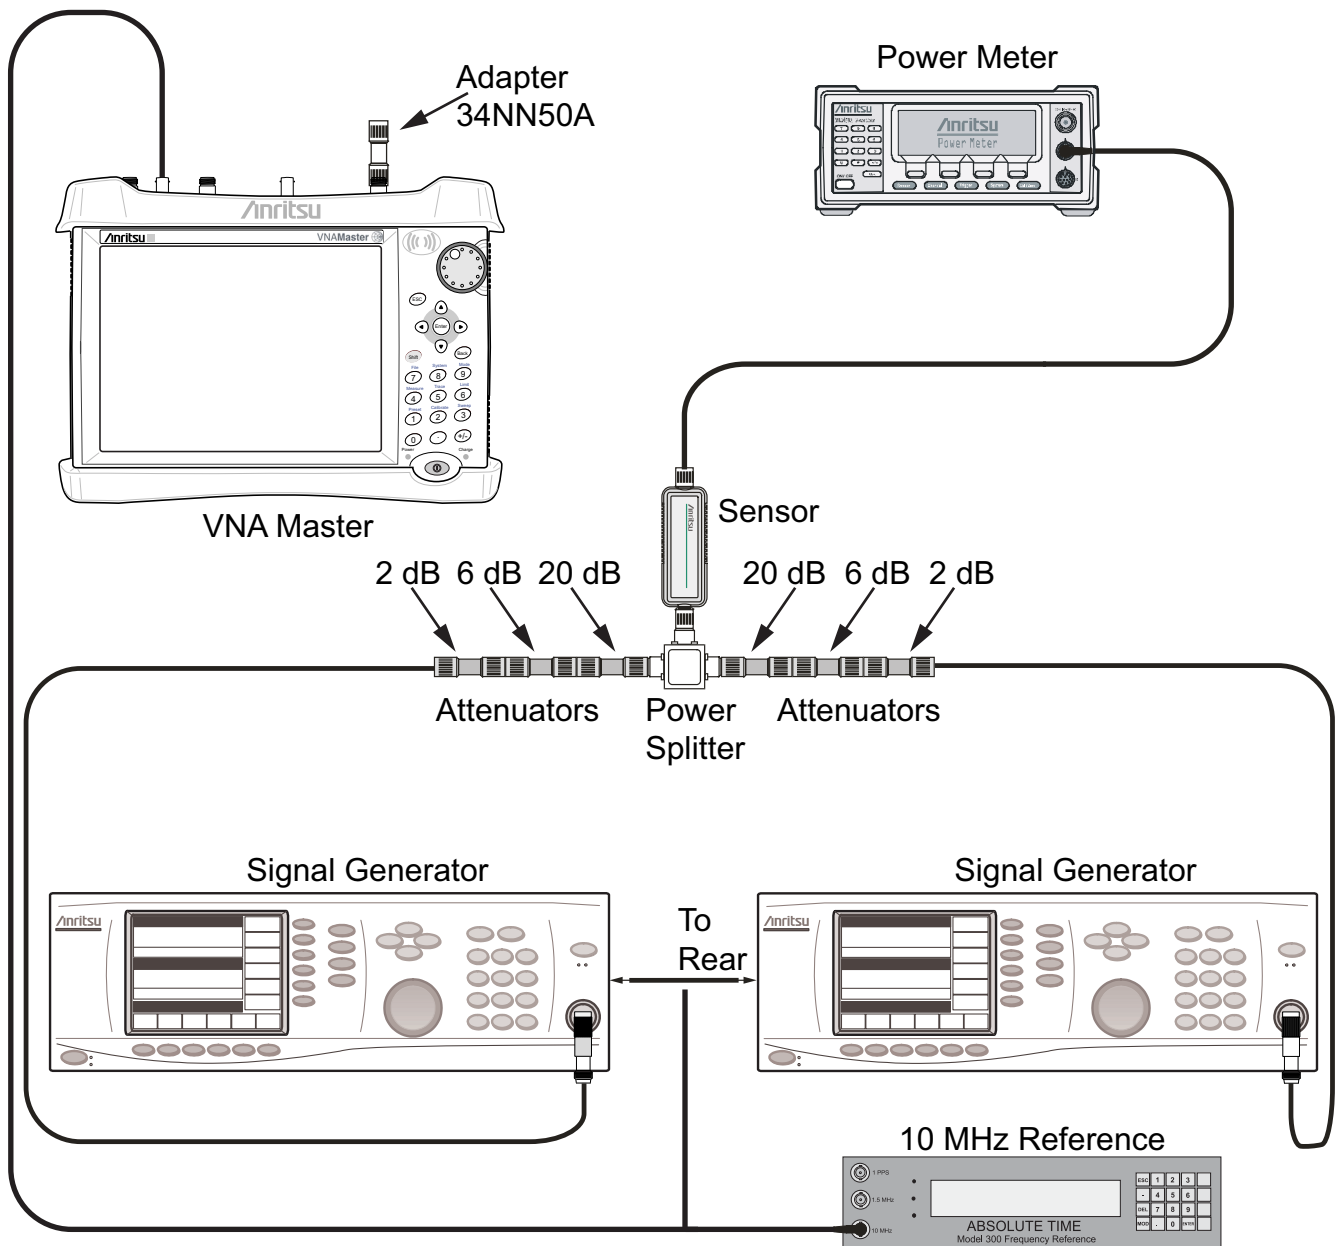

Figure 3-8. Third Order Intercept (TOI) Pre-test Setup
1. Connect the equipment as shown in Figure 3-8. The power splitter will be used as an RF combiner (the normal RF outputs will become inputs, and the normal input will become the RF output). Do not connect the power sensor at present.
26. Connect the power sensor to the power splitter output. Refer to Figure 3-8.